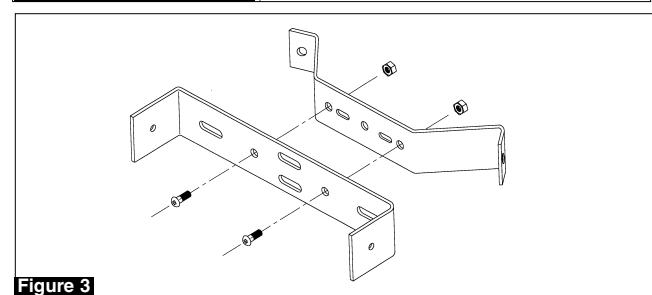

Figure 3
- Assemble U-brackets to corner bracket, using small screws and nuts (See Figure 3).